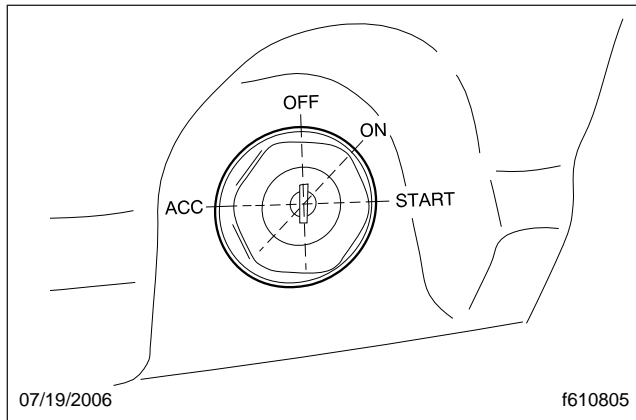

Fig. 25.7, Ignition Switch Positions
4. Ensure that the transmission shift control is in Neutral (N), Park (P), or the Park Brake (PB) position.
- Without starting the engine, turn the ignition switch to the ON position (Fig. 25.7). The electronic gauges on the instrumentation control unit (ICU) will complete a full sweep of their dials, the warning and indicator lights will illuminate, and the buzzer will sound for three seconds.